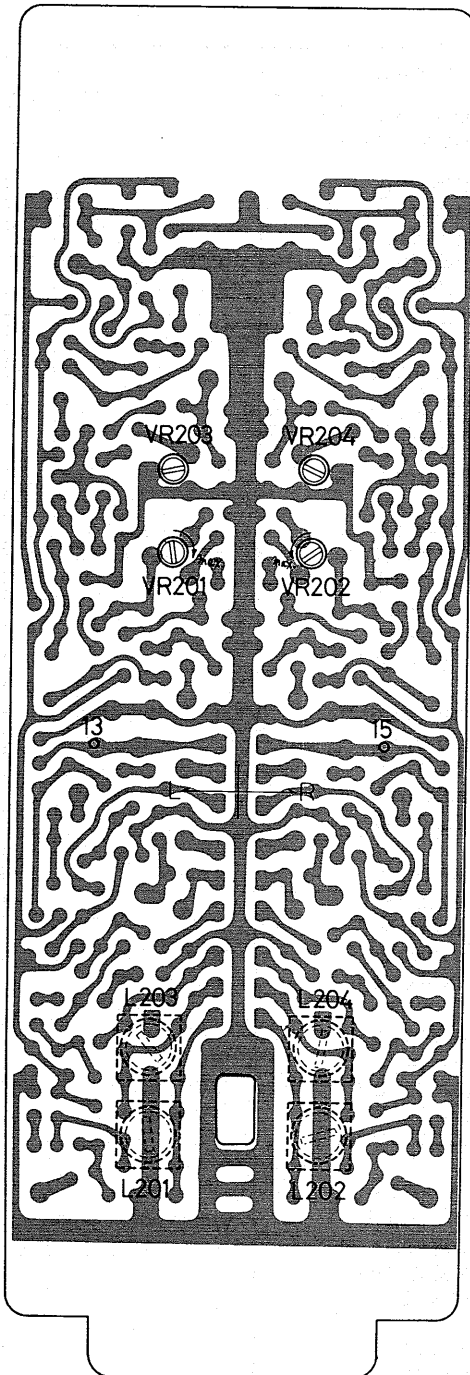

Fig. 33 Dolby processor assembly
7.12 DOLBY PROCESSOR (Fig. 33)